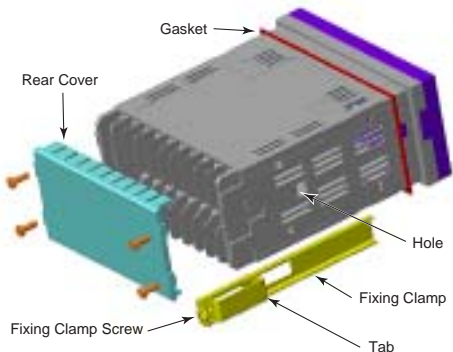

Figure 2: Mounting the Monitor
2. Slip the gasket over the rear of the monitor (see Figure 2), and then back the monitor into the hole from the front side of the panel. (Mounting bracket and cosmetic frame are available as accessories.)
3. Attach the fixing clamps as shown in Figure 2 to both sides of the monitor. Make sure the tab is secure in the hole on both sides.